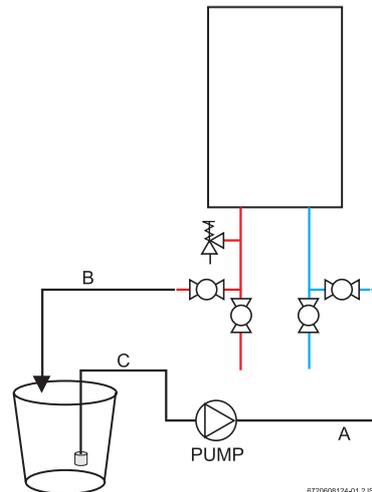

Fig. 58
5. Connect a line (A) from the outlet of the circulating pump (installer supplied) to the inlet water fitting on the water heater (see Fig. 58.)
6. Using another line (B), connect the water outlet fitting on the water heater. Route the other end of this line into a descaling reservoir.
7. Using a 3rd line (C) from the descaling reservoir, connect to the inlet side of circulating pump. Install a filter on the end of the line in the descaling reservoir.